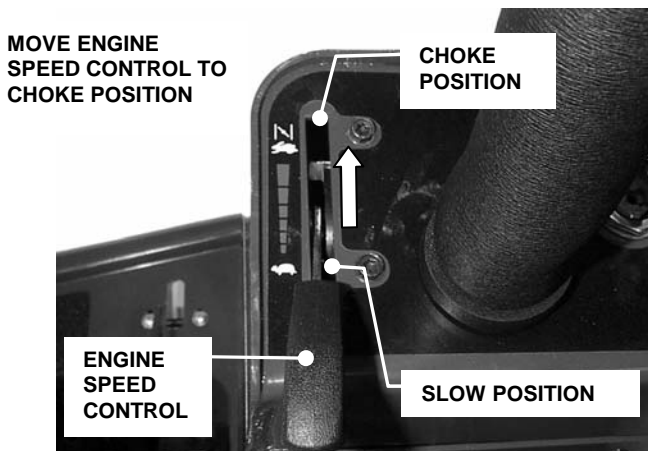

FIGURE 2.7
4. Move engine speed control to the choke position to start a cold engine. See Figure 2.7.